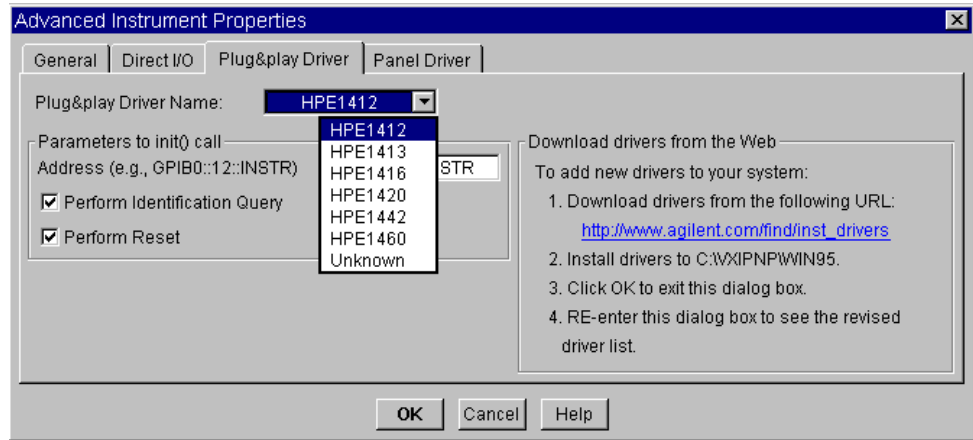

Figure 3-29. Selecting a VXIplug&play Driver
3. In the Advanced Instrument Properties dialog box, toggle Live Mode: to OFF and select the Plug&play Driver folder. Click the Plug&play Driver Name: field to display the drop-down menu which lists all the drivers installed on the computer. This example uses the HPE1412 driver, as shown in Figure 3-29.